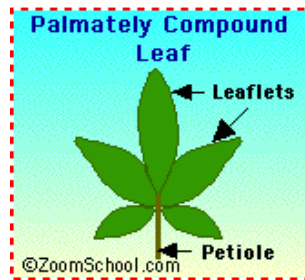

Figure 11
**PALMATE** leaf has a hand-like structure. It has more than three lobes that branch from a single point at the base of the leaf. Refer to Figure 11.